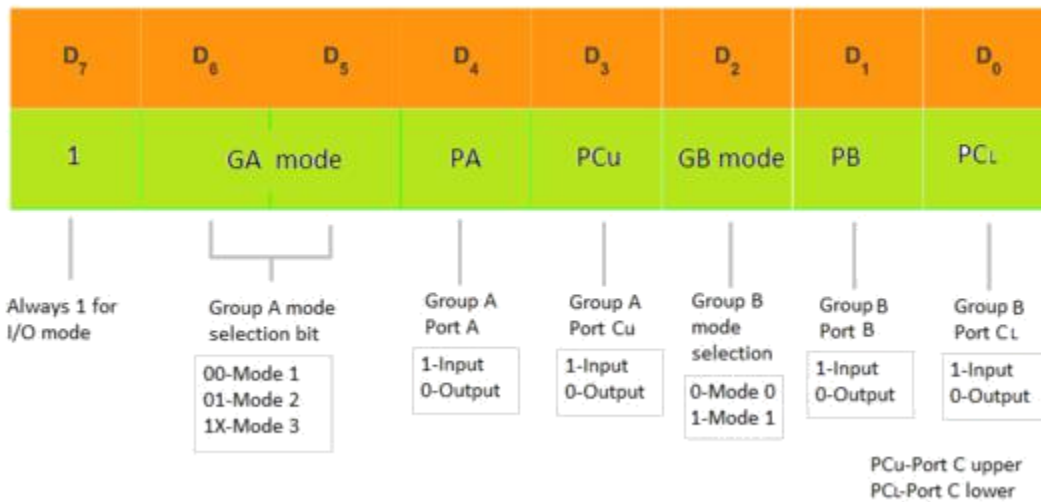

Figure 5: 8255 Control word for I/O mode
- **D₀, D₁, D₃, D₄** are assigned for lower port C, port B, upper port C and port A respectively. When these bits are **1**, the corresponding port acts as an input port. For e.g., if $D_0 = D_4 = 1$, then lower port C and port A act as input ports. If these bits are **0**, then the corresponding port acts as an output port. For e.g., if $D_1 = D_3 = 0$, then port B and upper port C act as output ports as shown in Figure 5.